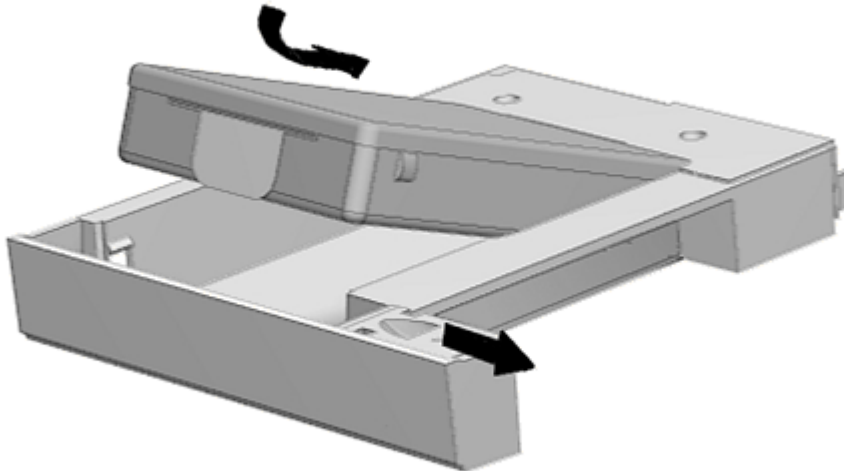

Figure 7-6. Placing a Hard Drive in the Hard Drive Carrier
3. Slide the drive toward the rear of the carrier until it is seated (Figure 7-6).